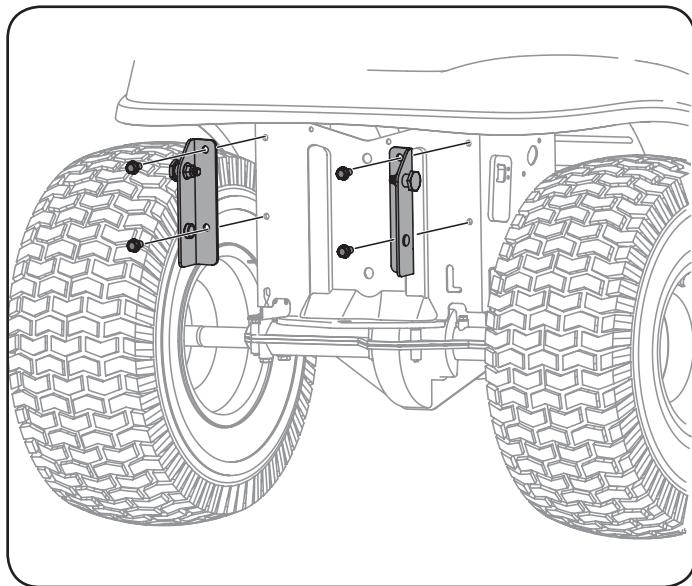

Figure 5
3. Mount the 700 series tractor mounting brackets to your tractor using four self-tapping hex screws included with your kit. See Figure 5.